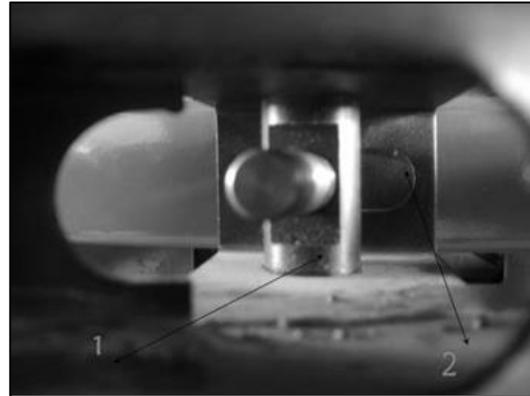

Fig. 10
3.2.5 Position the bead breaking Arm Shaft Bushing into the bead breaking Support Plate on the body (Fig. 9-1) to align the hole and install the bead breaking bolt (Fig. 9-2) and assemble the nut to lock (Fig. 8-4). Insert the piston rod (Fig.10-2) through the hole of the bead breaking slide bushing (Fig. 10-1). The surface of the slide bushing should be facing outwards (Fig. 10). Assemble the removed nut (Fig. 8-1) into the front end of the piston rod. The distance from the edge of the bead breaking blade to the bead breaker's rubber pad is $1\frac{3}{16} + 1\frac{1}{2} + (30-40\text{mm})$ as shown in Fig.11. Install the return spring (Fig. 9-3)